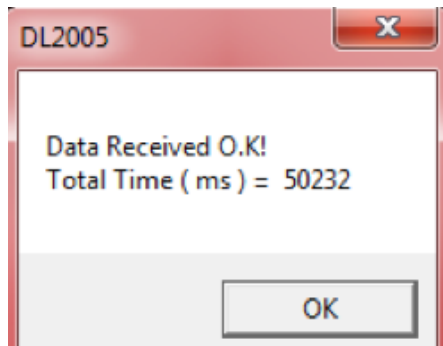

Figure 3
8. If successful, the following confirmation box will appear (see Figure 3).